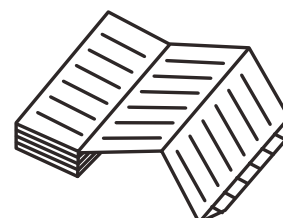

Fig. 3
3. Remove 2 screws for mounting plate fixing the battery. (Fig. 3)
3. As shown in Fig. 3, insert the recording paper with the “begin” tab placed in the cartridge. Check that the printed side is facing out.
Turn the power switch ON. The ink pen will move inward on the circular recording paper and stop temporarily at the 0% position (equivalent to the 40 °C line). Then the ink pen will move to the position which indicates the measured temperature. (Fig.3)